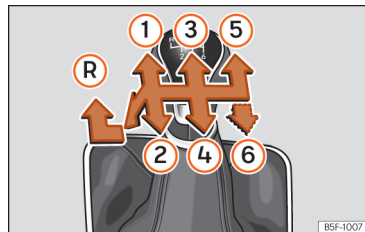

Fig. 84 Gear shift pattern of a 5 or 6-speed manual gearbox.
Gear positions are indicated on the gear lever >>> **Fig. 84.**
- With the gear lever in neutral, push it down, move it all the way to the left and then forwards to select reverse gear »» Fig. 84 (R).